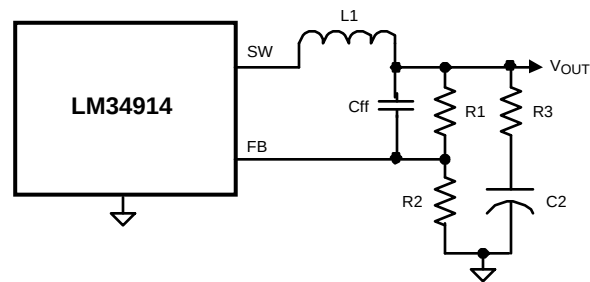

Figure 5. Reduced Ripple Configuration
b) Minimum ripple configuration: If the application requires a lower value of ripple (<10 mVp-p), the circuit of Figure 5 can be used. R3 is removed, and the resulting output ripple voltage is determined by the inductor's ripple current and C2's characteristics. RA and CA are chosen to generate a sawtooth waveform at their junction, and that voltage is AC-coupled to the FB pin via CB. To determine the values for RA, CA and CB, use the following procedure: